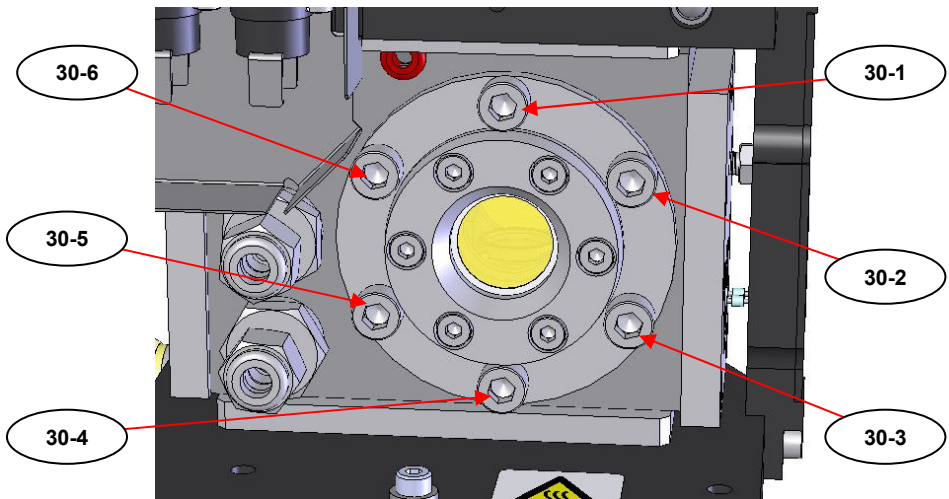

Fig 17. Window Assembly (11) Refitting Bolt Tightening Sequence
For refitting of the window assembly (11) the six fixing bolts (30) should be tightened in a specific sequence such that the window assembly (11) can be tightened flush and evenly to the HTHP Cell body (3) for correct sealing by the silicone O-ring (35). (See Fig 17.)